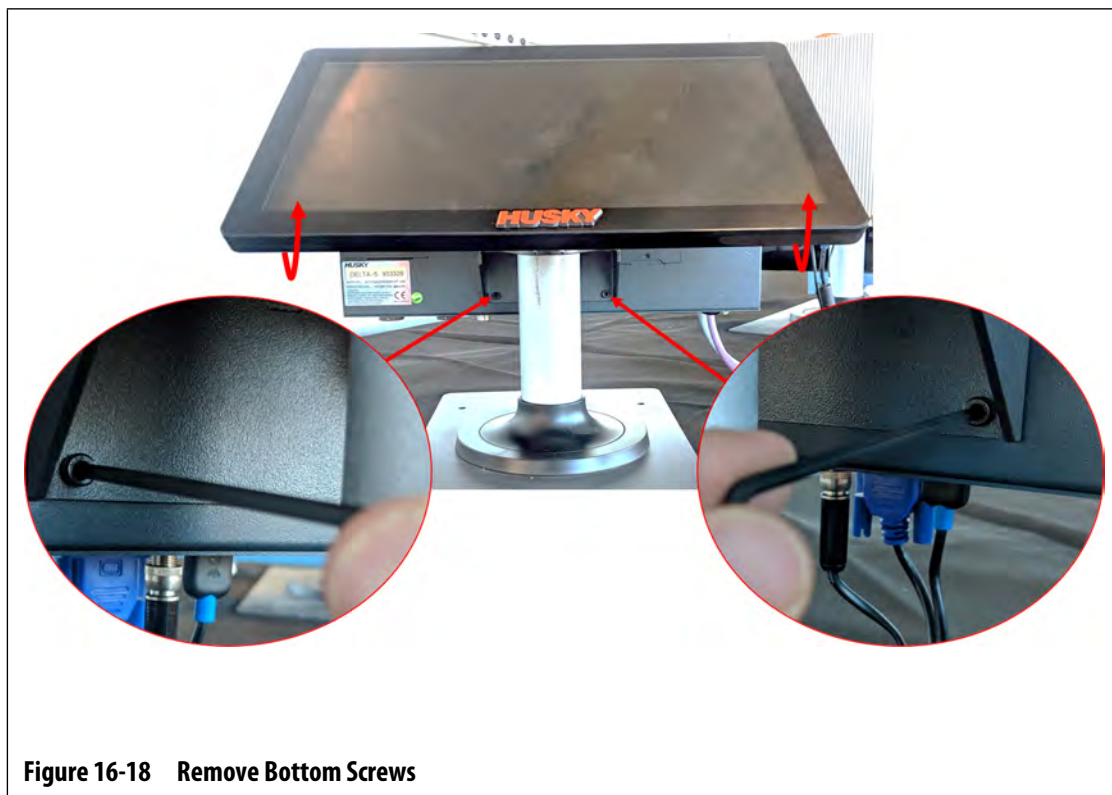

Figure 16-18 Remove Bottom Screws
5. Rotate the touch monitor to the full back position. Refer to Figure 16-18.
6. Find the two lower screws that hold the MCU to the mounting bracket and completely remove them with a 4 mm right-angle Allen key or hex wrench. Refer to Figure 16-18.
- 12.** Rotate the touch monitor to the full back position. Refer to Figure 16-18.